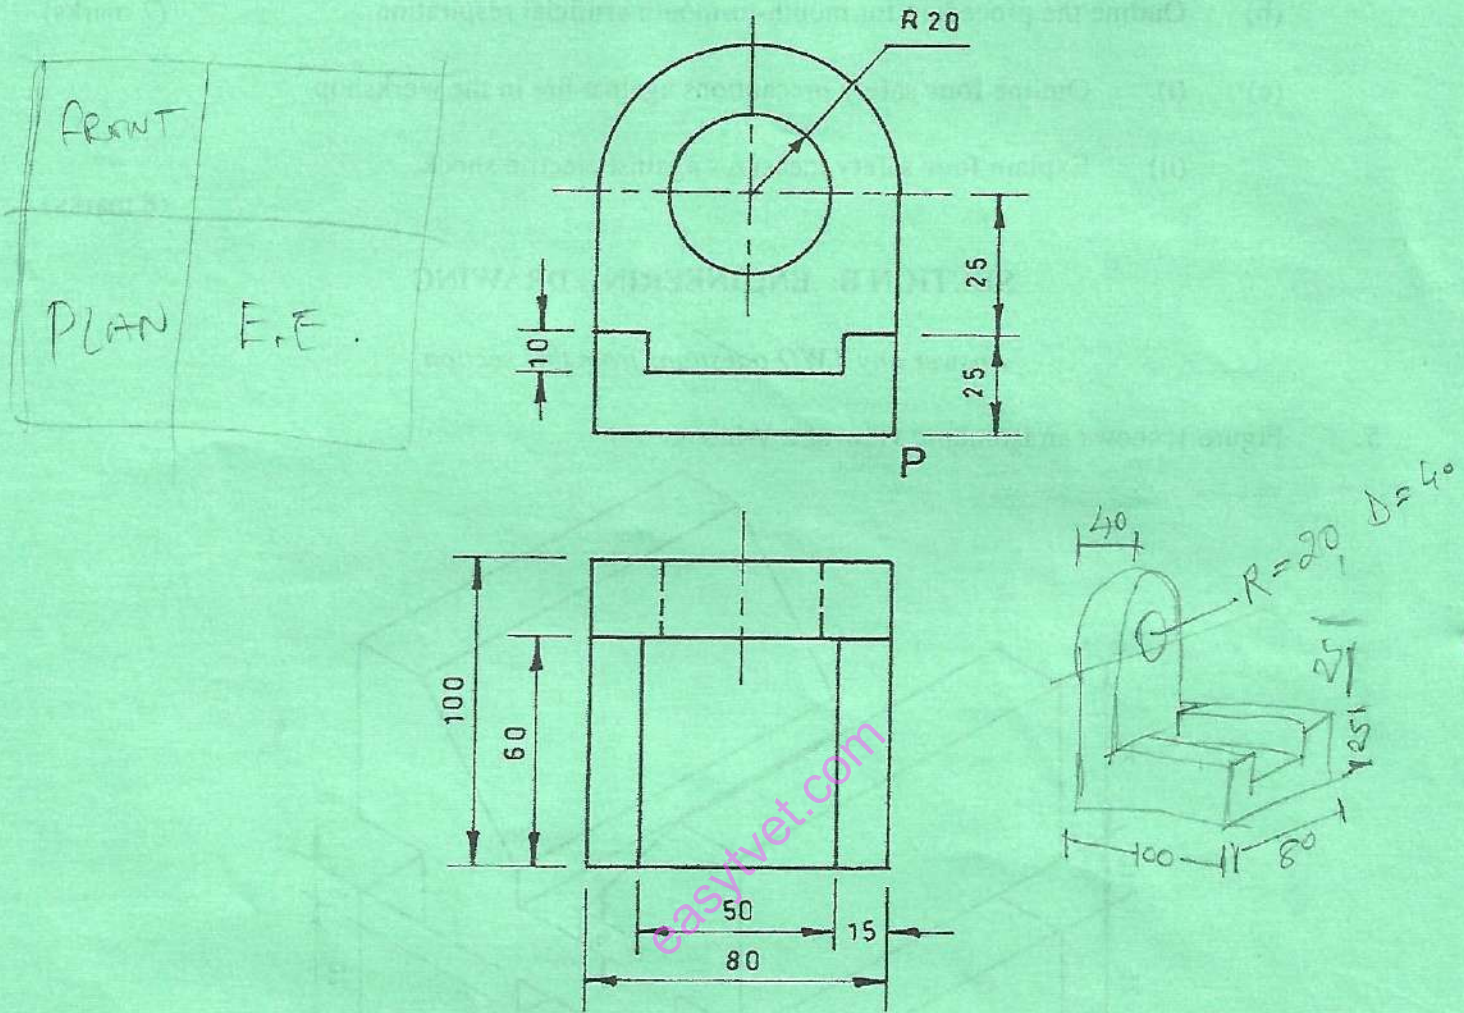

Fig.2
6. Figure 2, shows two views of a solid drawn in first angle projection.